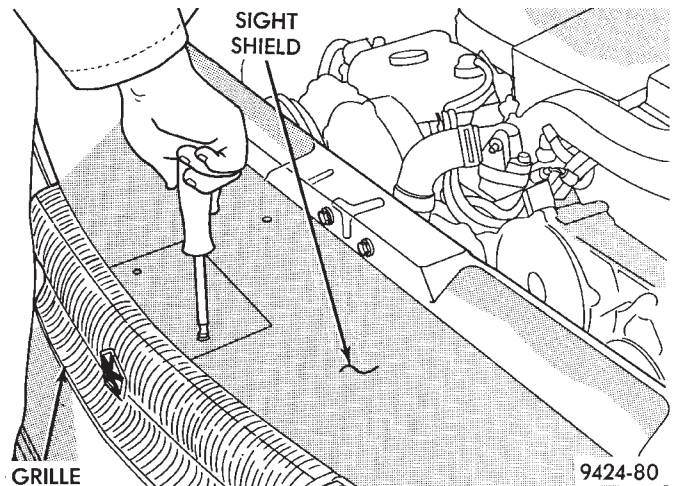
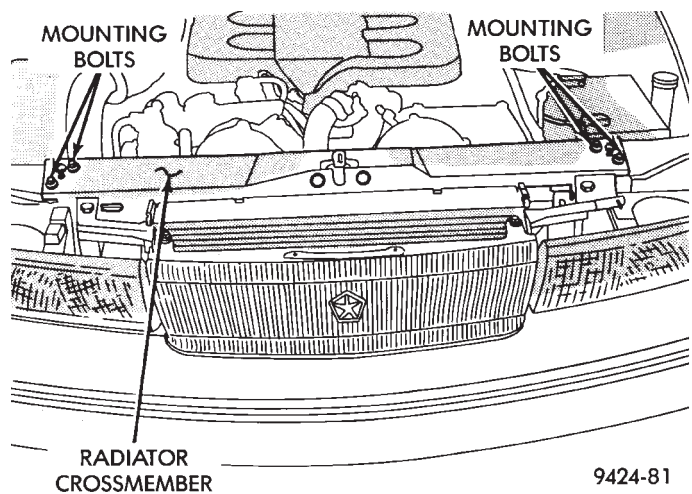

**Fig. 35 Sight Shield Removal**
**Fig. 36 Radiator Crossmember**
- (1) Disconnect negative battery cable.
- (2) Remove sight shield (Fig. 35).
- (3) Remove right and left headlamp modules. Refer to Group 23 Body for removal procedure.
- (4) Drain engine cooling system. Refer to Group 7 Engine Cooling for proper procedure.
- (5) Remove refrigerant from A/C system using a recovery machine.
- (6) Disconnect and cap A/C lines at condenser.
- (7) Remove upper radiator crossmember (Fig. 36).
- (8) Remove hose clamps and hoses from radiator.